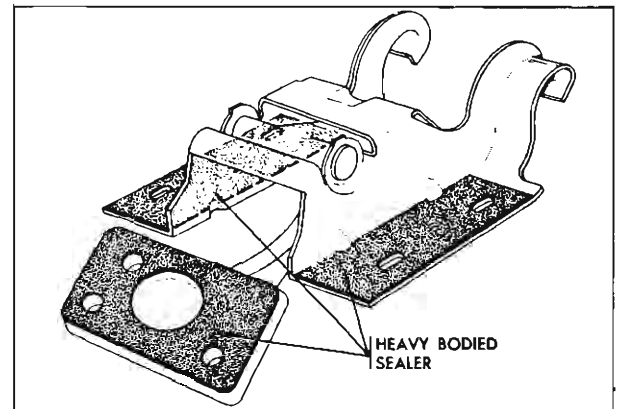

Fig. 14-11 Back Door Hinge—Anti-Squeak
3. To install back door assembly, first, as an anti-squeak precaution, apply a coat of heavy-bodied sealer to attaching surfaces of both hinges. (Fig. 14-11) then, reverse removal procedure. Align back door with previously made hinge marks.
2. As an anti-squeak precaution, apply a coat of heavy-bodied sealer to surfaces of hinge which contact body and back door (Fig. 14-11).